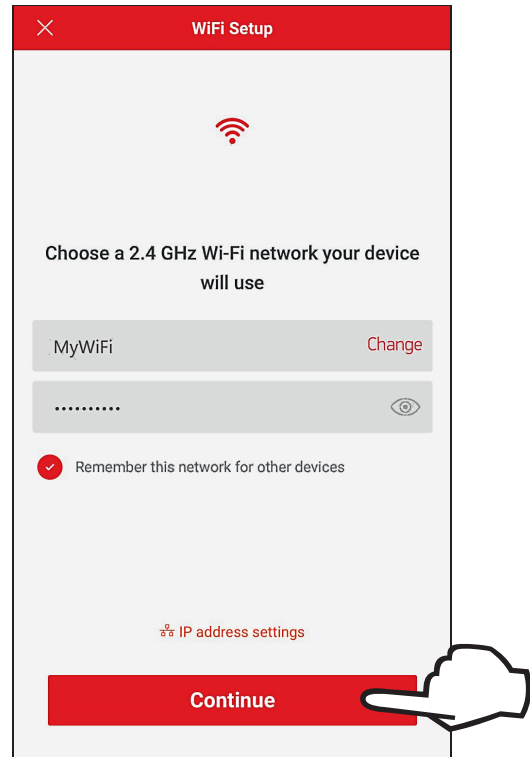

Figure 94. Wi-Fi Setup
1. The "Wi-Fi setup" screen will appear. Select or enter the Wi-Fi network you want your unit to be connected to and enter the network password. See **Figure 94**.